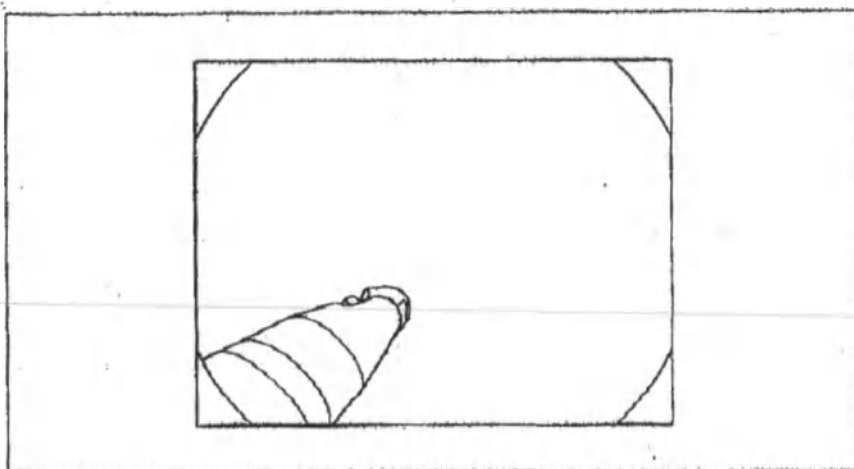

Fig.19.
2. Slowly insert the endoscopic device and make sure that the distal end of the endoscopic device is in sight. (see Fig.19)